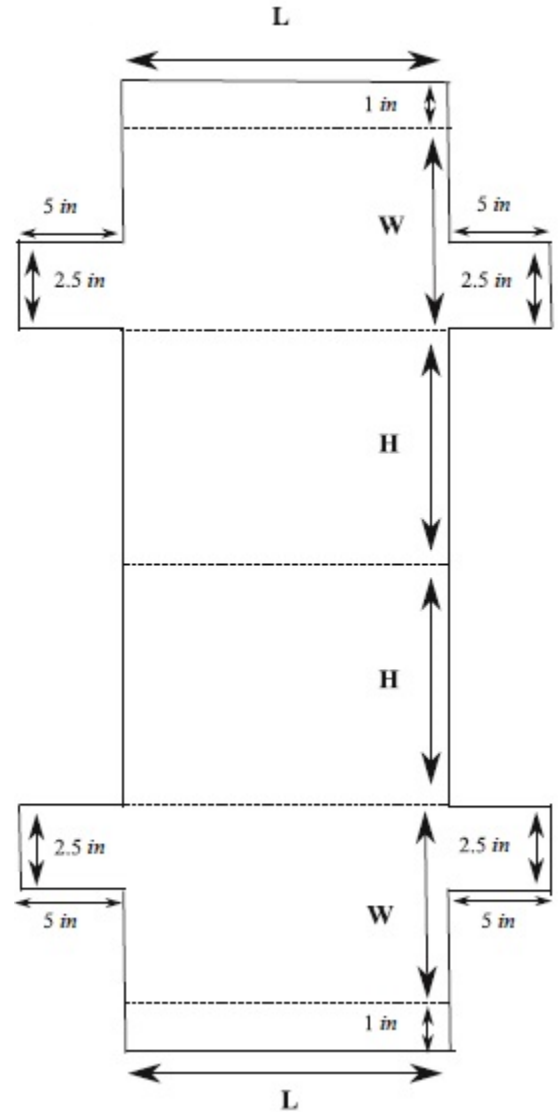

Fig. 4
12) To cut out the soft-structure Tyvek cover, draw the diagram in Fig. 4. Use the tray dimensions for length, width, and height. Using a utility knife and straight edge, cut only solid lines.